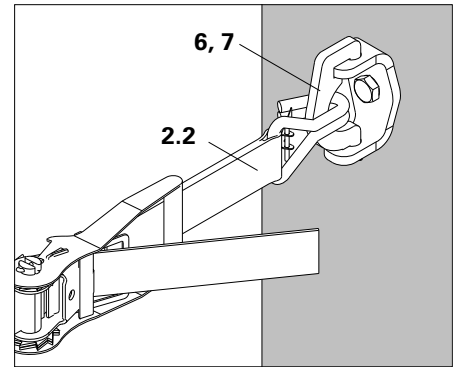

Fig. A2.10b
3. Attach lashing strap (2.2) to Wall Fixing PWF. (Fig. A2.10b)